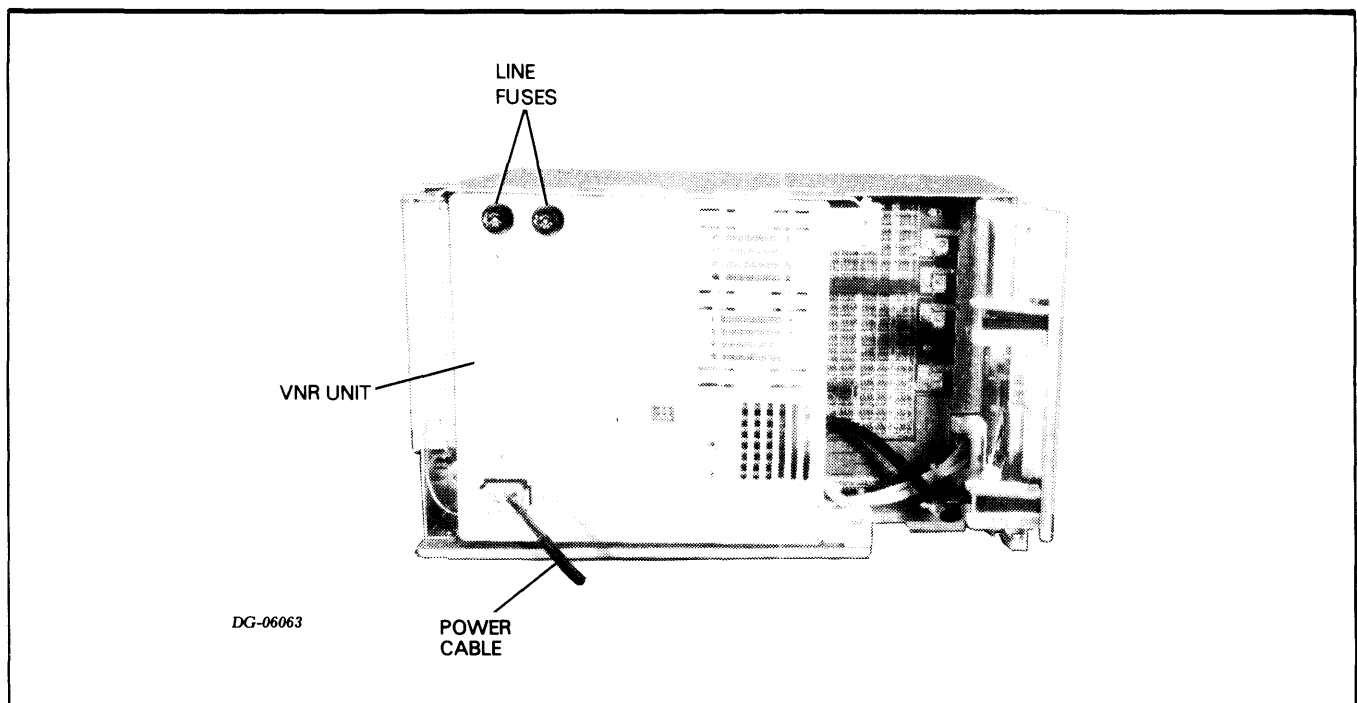
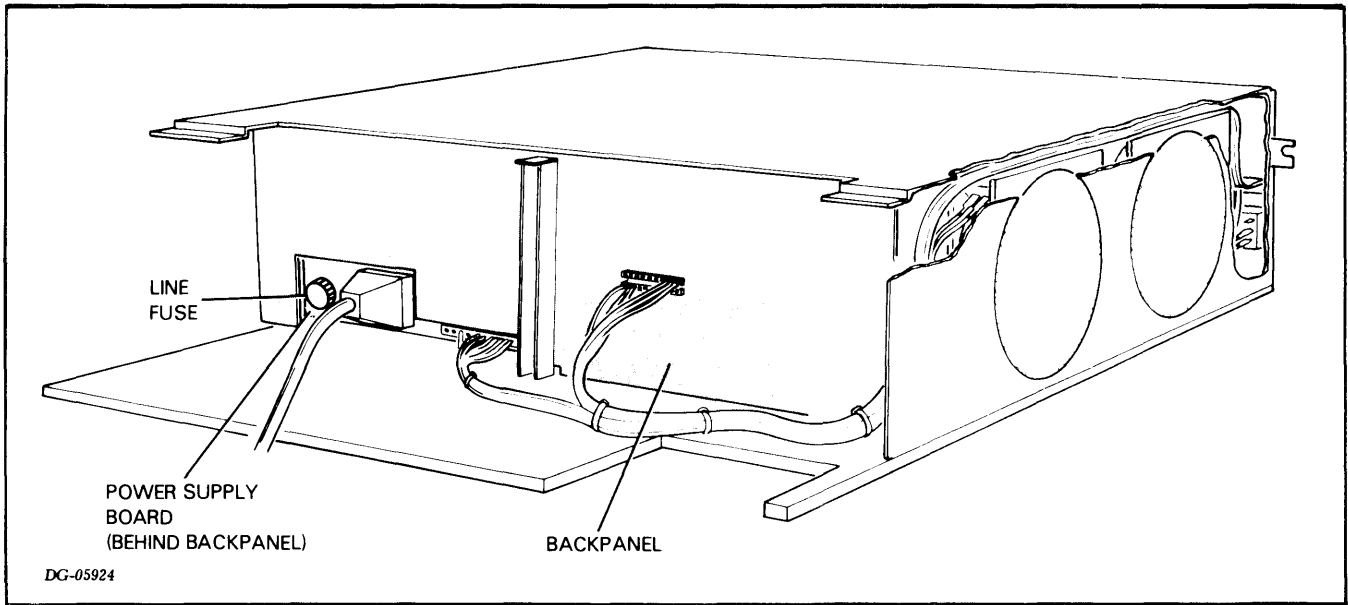

Figure 4.1 LINE FUSES FOR 16-SLOT POWER SUPPLY
Figure 4.2 LINE FUSE FOR 5-SLOT POWER SUPPLY
4. If you are repairing a system, check the ac line fuses and replace them if they are blown. The 16-slot power supply has two 15 Amp line fuses which screw into the rear of the VNR unit (see Figure 4.1). The 5-slot power supply has one 7 AMP line fuse which screws into the rear of the power supply board and extends through a cutout in the backpanel (see Figure 4.2).